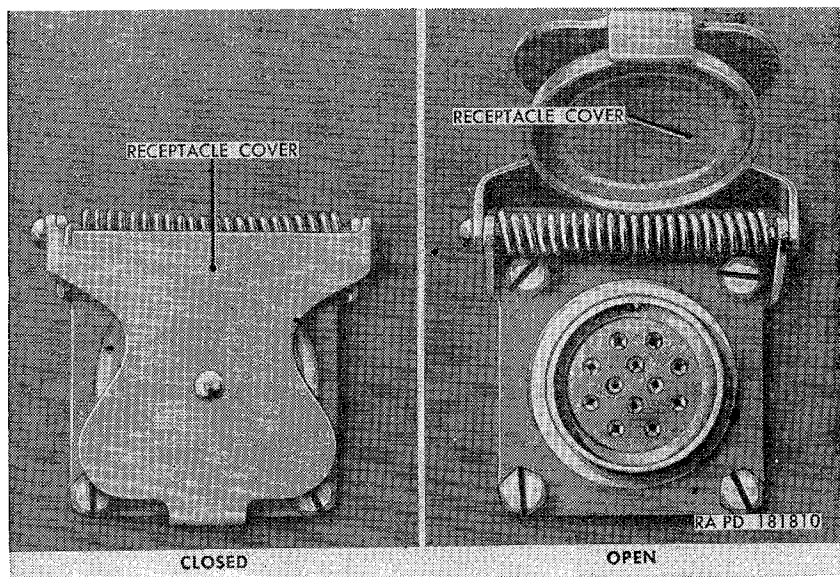

Figure 16. Trailer coupling electrical receptacle (M38A1).
b. Trailer Coupling Electrical Connector Receptacle (M38A1) (fig. 16). The trailer coupling electrical connector receptacle is located at the left rear corner of the body and the wiring is interconnected with the vehicle light switch. The light switch positions control the tail-lights on the trailer in the same manner as controlled on the vehicle